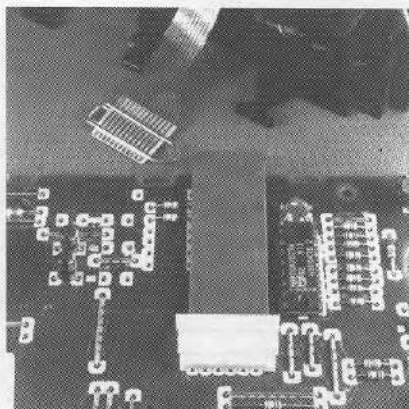

Fig. 2
3. Short-circuit printed board with brass-sheet (4822 321 11197) plugged into the flexfoil connector (fig. 2)